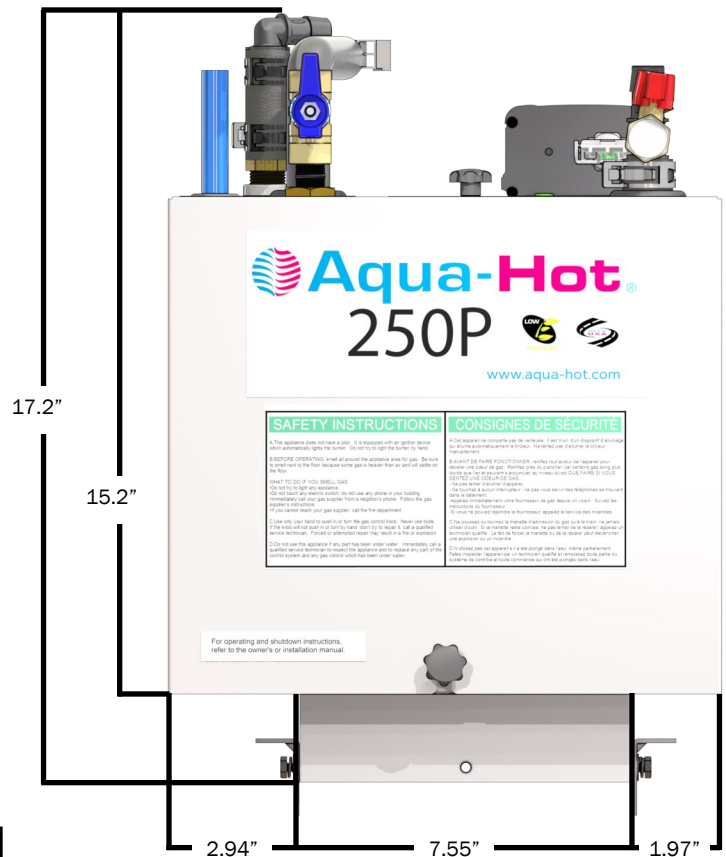

Figure 5
- Front view Aqua-Hot dimensions reference figure 5.